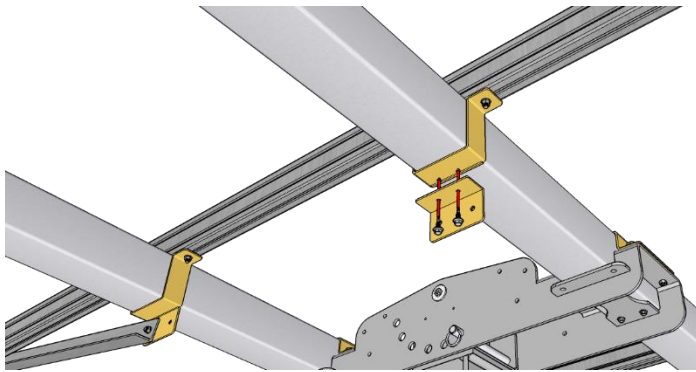

Fig. 14
- 15.1 The Wind Brace Kit comes with gold “L” brackets that tek screw through the Rail Straps into the torque tubes, as shown in Fig. 14. You may want to pre-drill a pilot hole for the tek screws to help get them started into the torque tubes. The tall leg of the L should be facing towards the center of each individual panel column (each rail should alternate which direction the legs are facing)